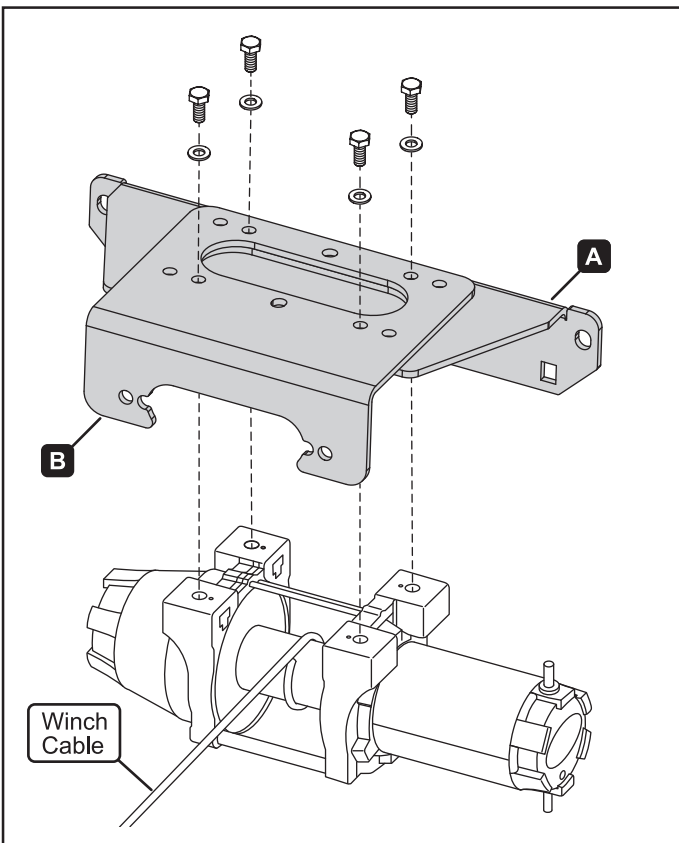

Figure 4.
3. Loosely assemble the fairlead mount (B), winch mount (A) and your winch using the hardware provided with your winch as seen in figure 4. Match orientation of winch cable pictured.